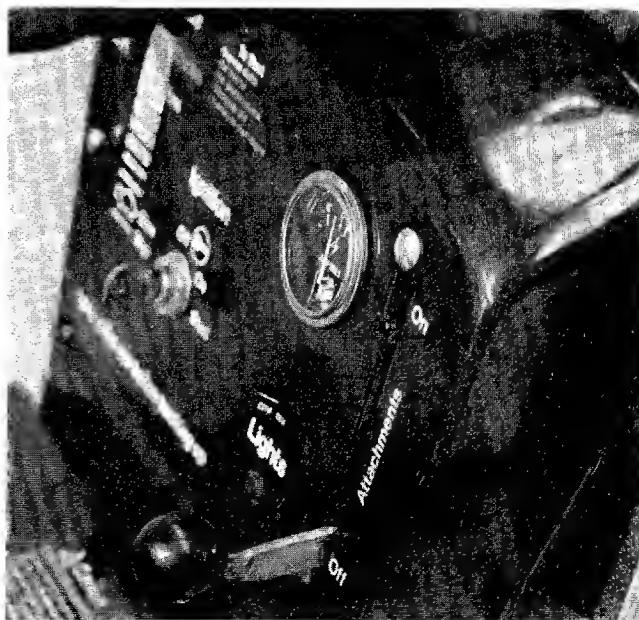

FIGURE 9.
The PTO engagement lever is located on the right side of the dashboard. It is used to engage the blades on the cutting deck or snow thrower attachments. To turn on the attachment, lift the lever slowly and lock it in the notch. To turn off the attachment, remove the lever from the notch and lower it to the off position. See figure 9.
1. Place the PTO lever in the disengaged position (down). See figure 9.